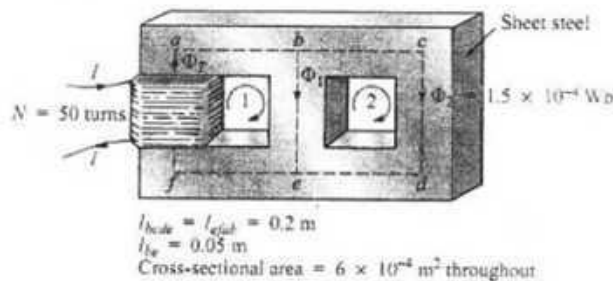

Figure 1(b)
- b. Determine the current  $I$  required to establish a flux of  $1.5 \times 10^{-4} \text{ Wb}$  in the section of the core shown in figure 1(b) [13]